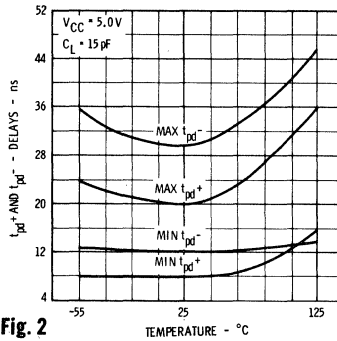
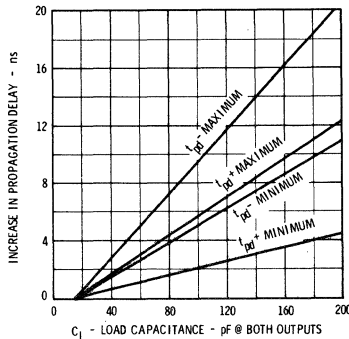

Fig. 2
Fig. 4
- (1) The load capacitance indicated in test circuits includes the capacitance of probe and jig.
- (2) All curves represent worst case composites of the behavior of limit devices. A typical device will not necessarily follow the temperature trend indicated by the curve, but should always be better than the worst case curve at any temperature in the range.
- (3) Sensitivity of all switching parameters to supply voltage change (within range of 5 V  $\pm$  10%) and D.C. loading is very small.
- (4) Figure 4 should be used with Figs. 2 and 3 to determine worst case delays with capacitive loading greater than 15 pF.
- (5) Allowable clock skew  $\leq t_{pd+}(\text{min.}) + t_{\text{release}}(\text{max.})$